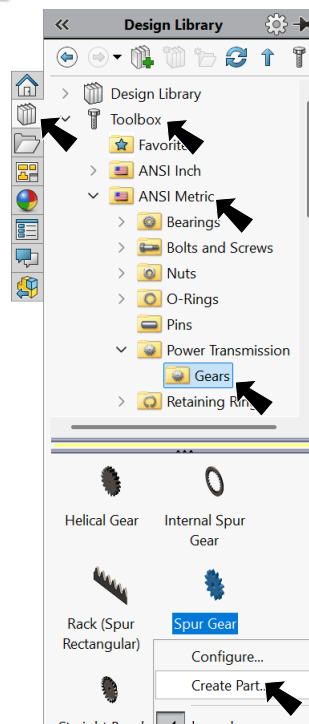

Fig. 1
Step 1. Click **Design Library** tab  in the Task Pane (right side of graphics area), **Fig. 1**.
Step 3. In the lower pane, **right click Spur Gear** and click **Create Part** from menu, **Fig. 1**.